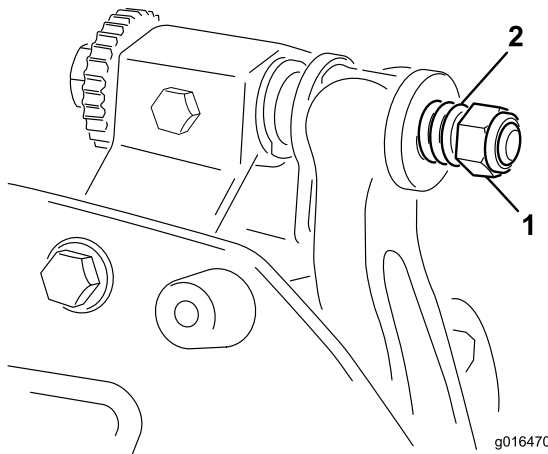

Figure 27
3. Position a nylon washer on each side of the side-plate boss. Place a steel washer outside each of the nylon washers (Figure 27).
6. Tighten the spring tension nut until the spring is collapsed, then back it off 1/2 turn (Figure 27).